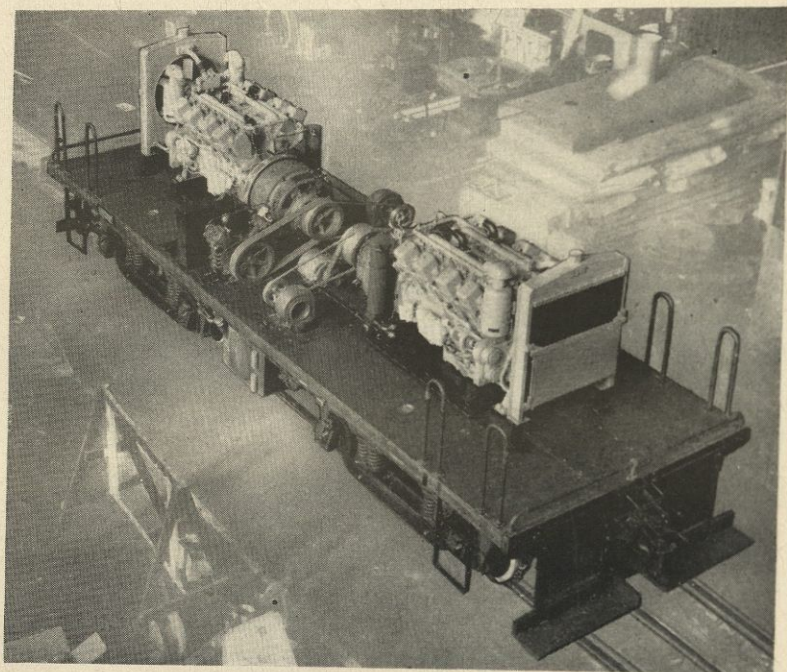

Fig. 7
14. Figure 7 shows two small 180 horsepower Diesel engines with Westinghouse generators. These two engine units are mounted on a single locomotive frame which is carried on motor-driven trucks. When completed, this combination becomes a 40-ton, 360 horsepower switcher. This illustration emphasizes the simplicity of the principle of a Diesel locomotive.